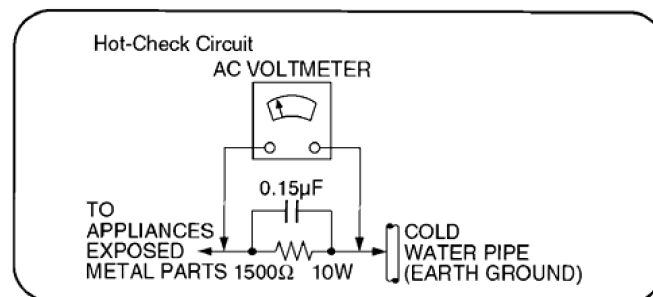

Figure 1
### 3.1.2. Leakage Current Hot Check (See Figure 1)
2. Connect a 1.5k $\Omega$ , 10 watts resistor, in parallel with a 0.15 $\mu$ F capacitor, between each exposed metallic part on the set and a good earth ground such as a water pipe, as shown in Figure 1.